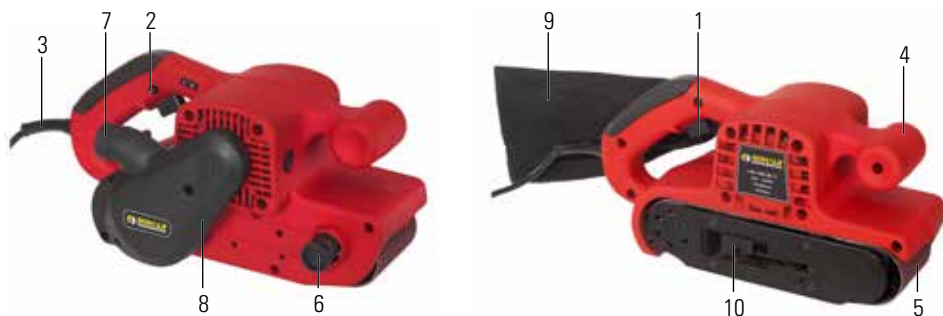

FIGURE 1
1. Lift the belt tensioning lever (item 10 - figure 1);
7. Turn the belt centering button (item 6 of figure 1) until the belt movement is aligned with the flat part of the tool;